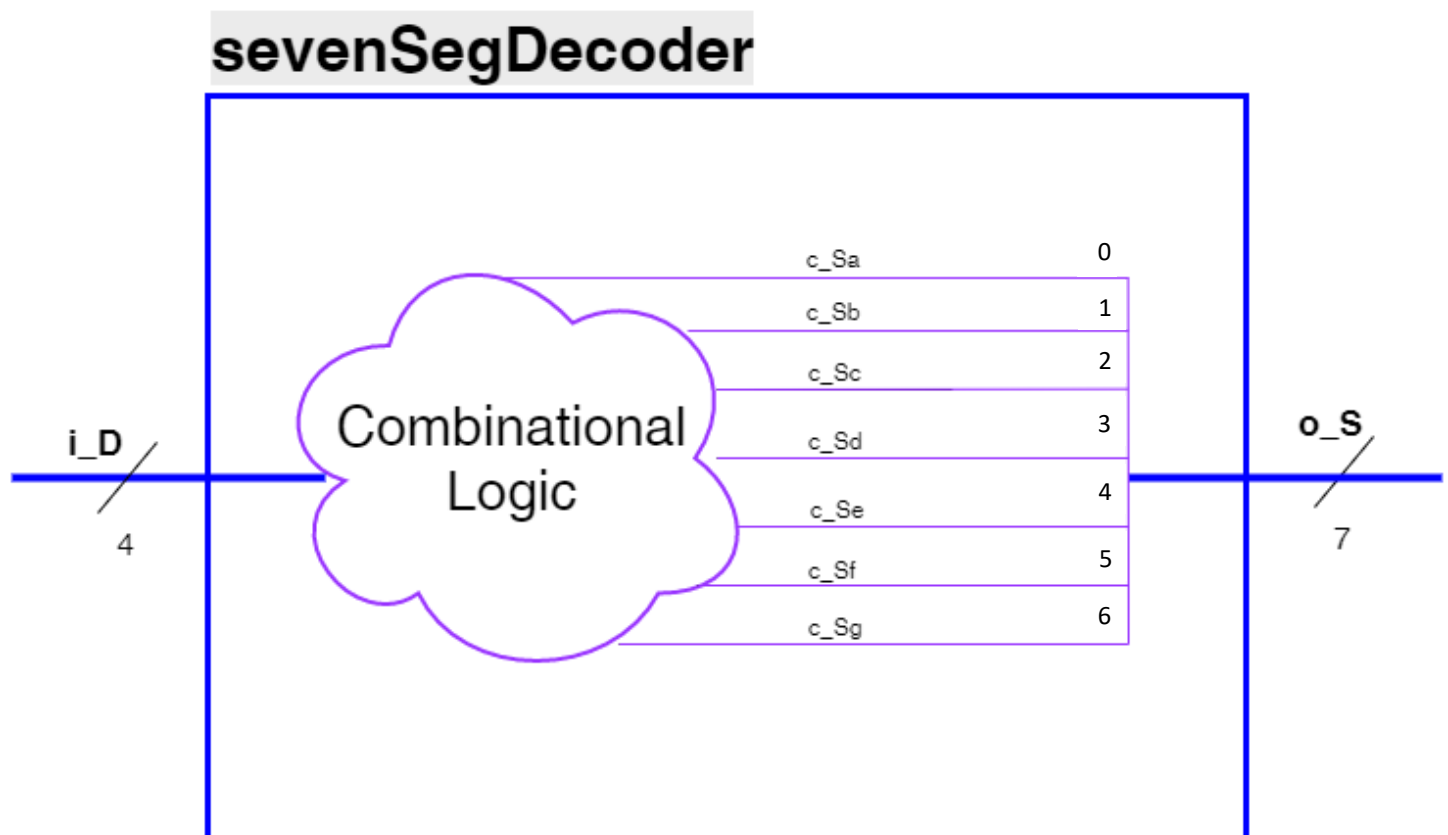

Figure 3 – sevenSegDecoder entity and architecture
Create your interface (ports) for your sevenSegDecoder according to Figure 3 below. Figure 3 shows the sevenSegDecoder module entity interface in blue and the architecture in purple. Notice that the figure indicates that the input, *i_D*, is a bus of 4 wires, and the output, *o_S*, is a bus of 7 wires. This can be created in VHDL by using a **std_logic_vector** signal type. For instance, *i_D* could be created in the **port** statement with the following:
After you have created your component interface, you need to describe the architecture. Figure 3 on the previous page shows that the output of the combinational logic produces a signal for each 7SD segment (c_Sa ... c_Sg). These combinational signals (denoted by the “c_” at the beginning) are wired to each bit of the output segment bus (o_S). The bit numbers are labeled in the diagram. For instance, BIT0 of o_S is wired to c_Sa.
- In the CONCURRENT STATEMENTS section, map the output S to the signals you created above per Figure 3. For instance: